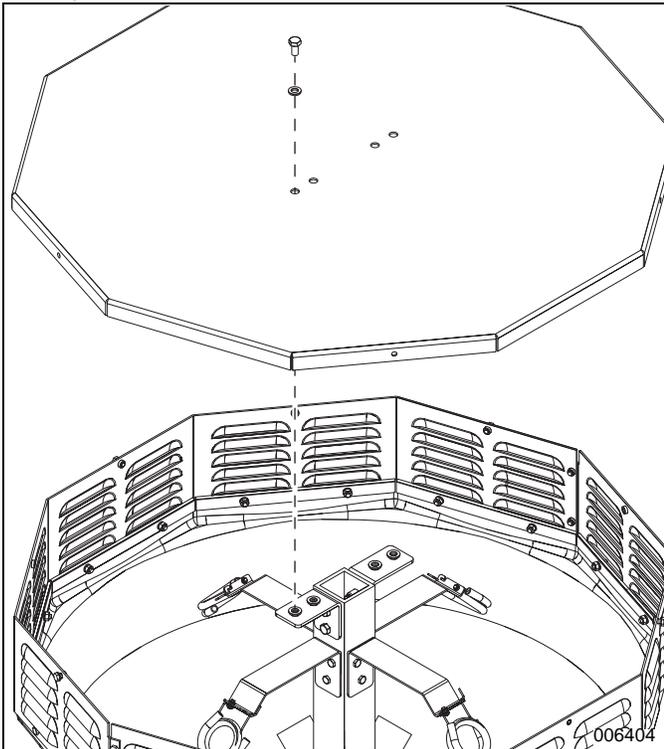

Figure 8. Lid Removal
2. See Figure 8. Remove and retain hardware securing top of lid. Remove and retain lid.
- See Figure 8. Install lid using hardware retained in step 3, lubricating surfaces of rubber washers before installing. Tighten hardware to 19.7 ft-lb (26.7 Nm).